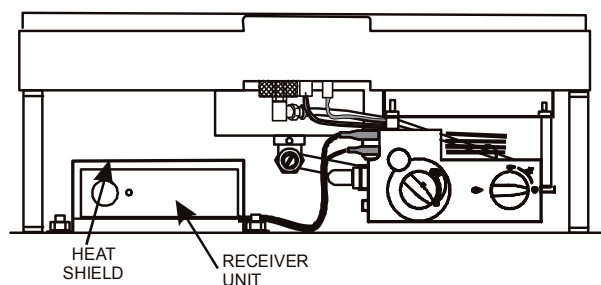

Figure 30
4. Position the receiver under the heat shield as shown in **Figure 30**.